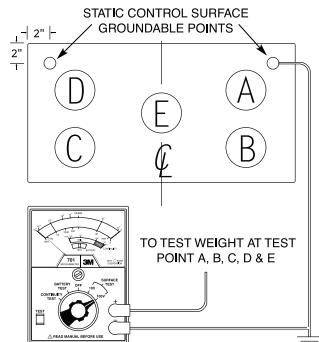

Figure 5-1: Periodic Performance Tests of Installed Surfaces
Refer to the two following sections to determine which measurement(s) should be used for your application. Place the Tester on a table top or other stable surface and attach the leads as shown in the appropriate sketch figures 5-1 through 5-5. Set the Main Selector Switch to the desired **SURFACE TEST** voltage. Place the test weight(s) on the surface to be tested and connect the test leads. Press **TEST** for 15 seconds and then read the resistance from the OHMS scale. After all readings have been completed, return the Main Selector Switch to the **OFF** position.
- B. Set the 3M™ Test Kit for Static Control Surfaces 701 on a table top or other stable surface and place a test weight at the desired test point as shown in Figure 5-1. Connect the test leads to the meter using the right angle banana plugs at the meter. Then connect one of the test leads to the test weight and the other to the **ESD GROUND** using one of the supplied clips.